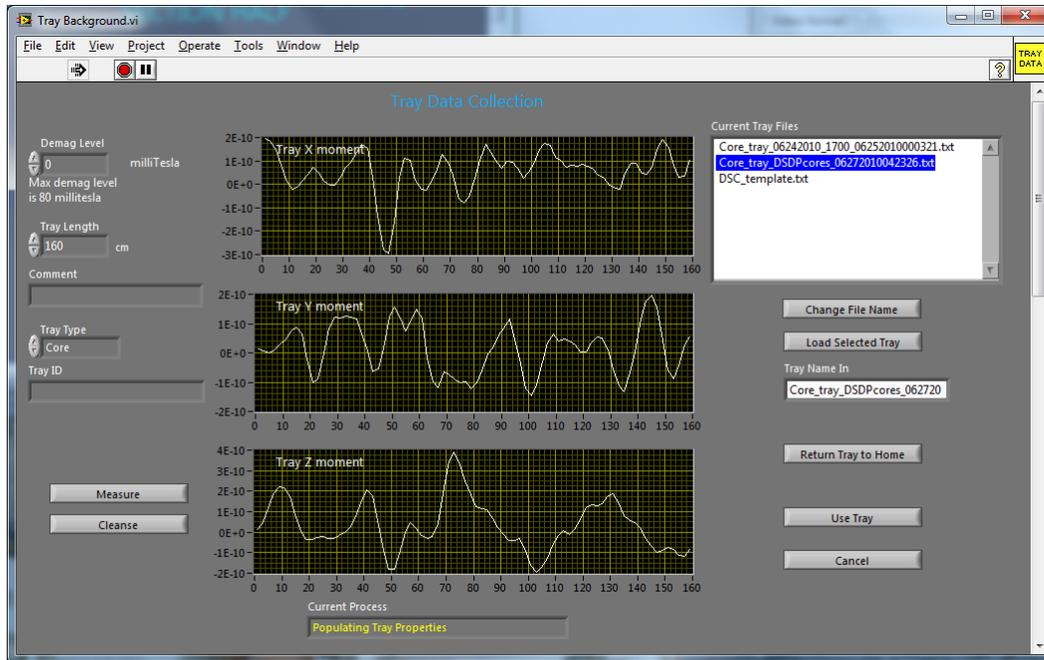

Figure 6. Tray Data Collection Screen.
1.	On the Main screen, click Measure Tray to open the Tray Data Collection screen ( <a href="#">Figure 6</a> ).